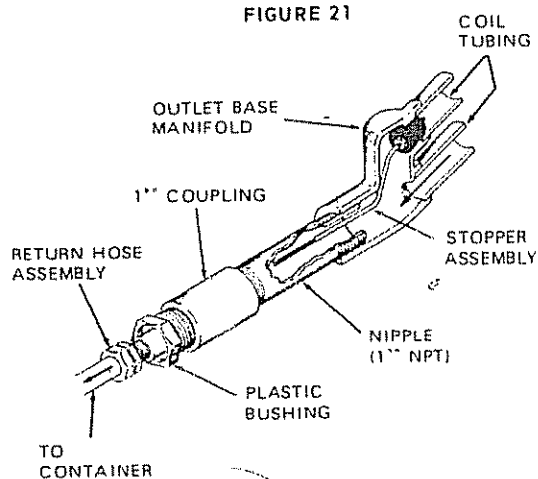

FIGURE 22
- It may be necessary to bend stopper rod to allow installation of nipple, fig. 22.